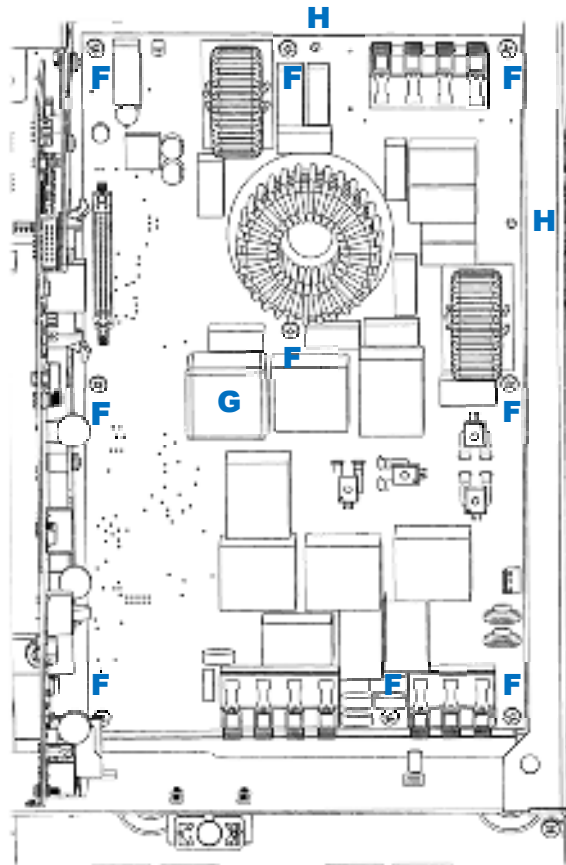

Figure 45 Dismounting AC Board
- Using a #2 Phillips screwdriver, remove 9 machine screws **F** that secure the AC board in place. See Figure 45.